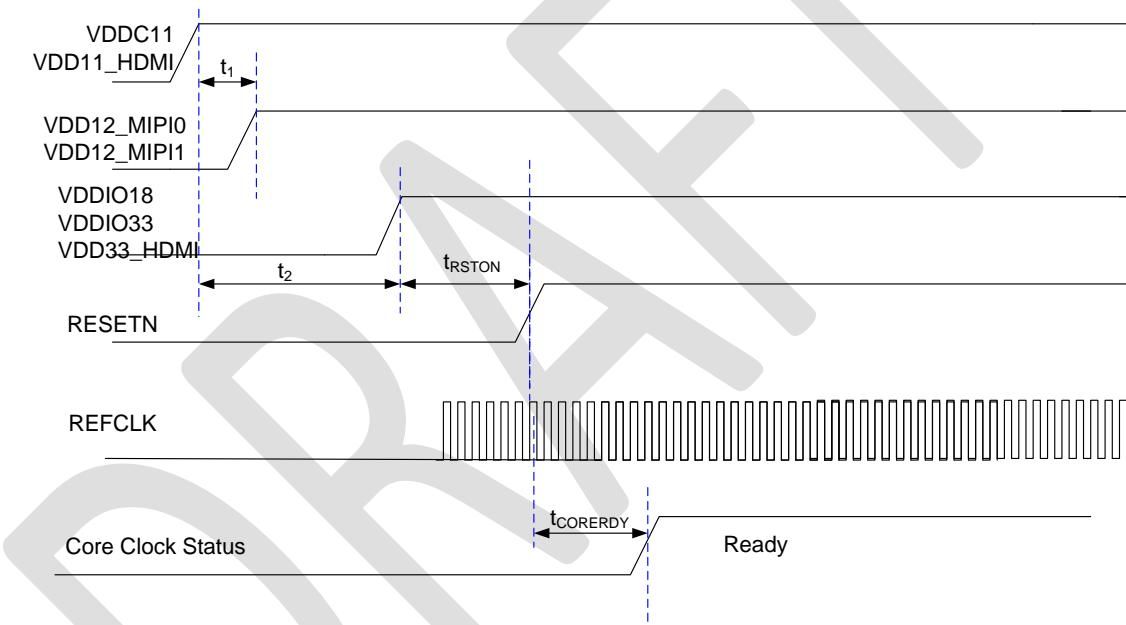

Figure 5-1 Power On Sequence
2. For voltage source, it is desired to turn on core power (1.1V) source first, then Analog PHY and IO (1.8V) power as shown in Figure 5-1 Power On Sequence.
4. The timing parameters for Figure 5-1 are tabulated in Table 5-3.